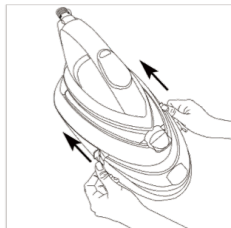

FIGURE 11
3. Put the water tank back and make sure that it is firmly positioned in place (Figure 11)